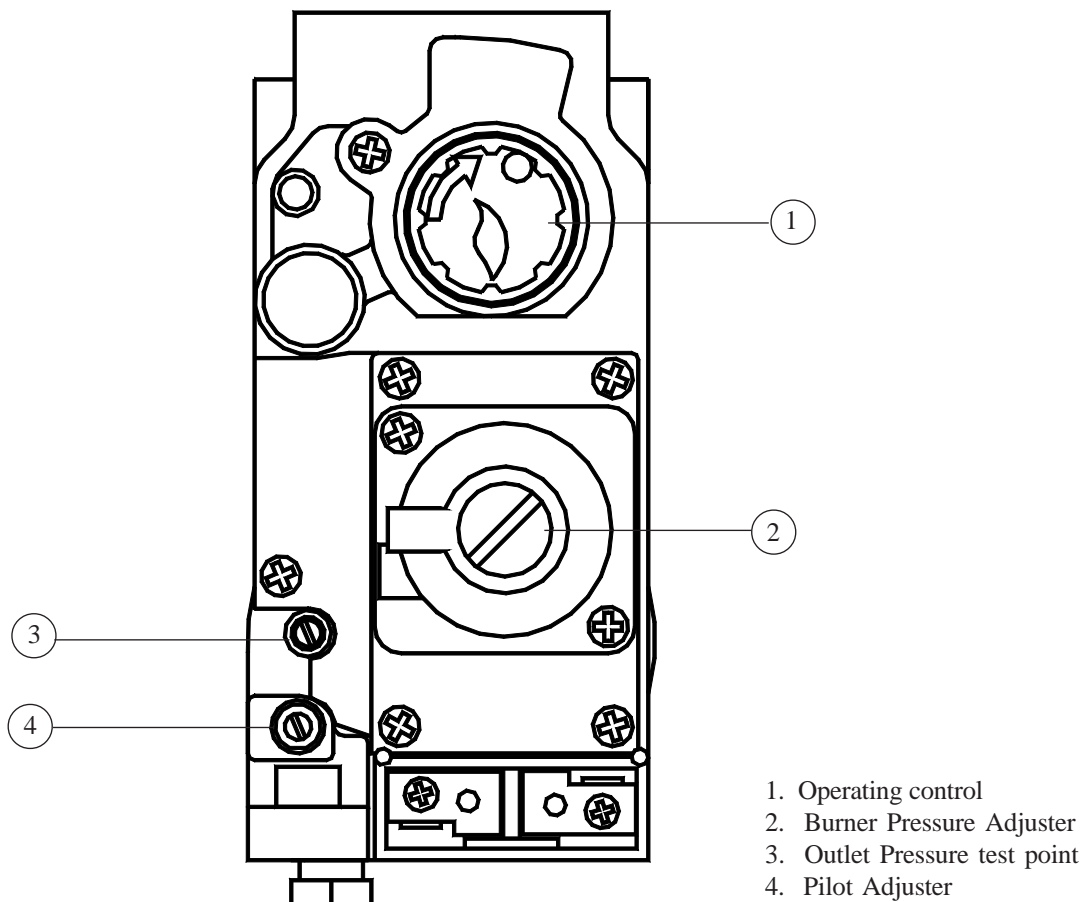

Fig. 4
- 6.3.2 On the Multifunctional Control, remove the Outlet Pressure test point cover, and fit a pressure test gauge (refer Fig. 4).
- 6.3.4 Referring to Fig. 4, press and hold the Multifunctional Control OPERATING CONTROL, and whilst observing the Pilot Burner, repeatedly press the Piezo igniter button until the Pilot Burner ignites.
- 6.4.1 Referring to Table 4 and Fig. 4 below, ensure that the pressure test gauge indicates the correct burner pressure, resetting if required as follows: